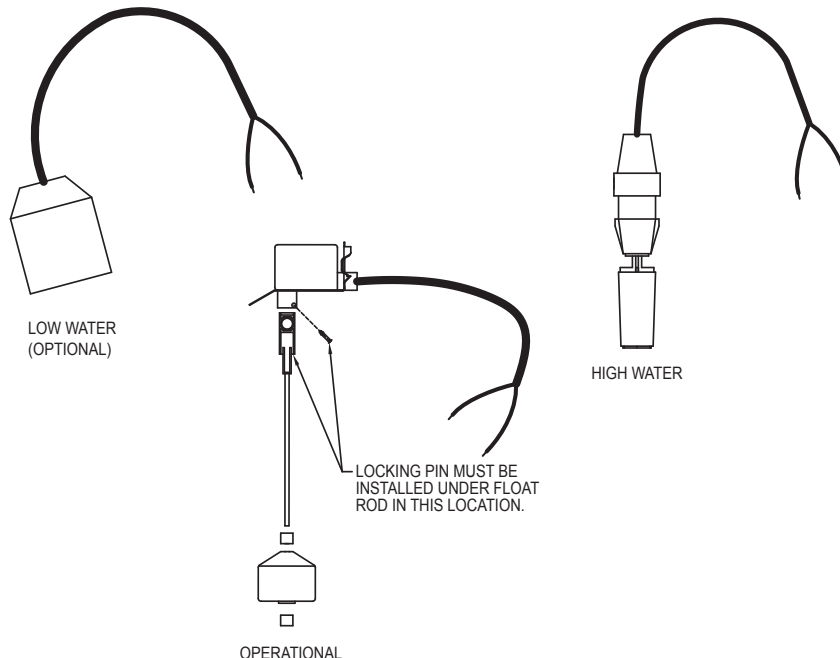

FIGURE 6
8. Assemble the operation float assembly per Figure 6. Install float switches as seen in Figure 1.